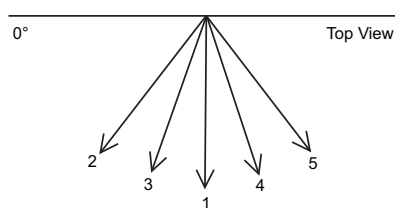

Figure 2
- 2 Manual vertical airflow direction can be set using remote control; the angles of the vane are as stated above and the positions of the vane are as Figure 2 below. When the air conditioner is stopped using remote control, the vane will shift to close position.
- Manual horizontal airflow direction can be set using remote control; the angles of the vane are as stated below and the positions of the vane are as Figure 2 above.